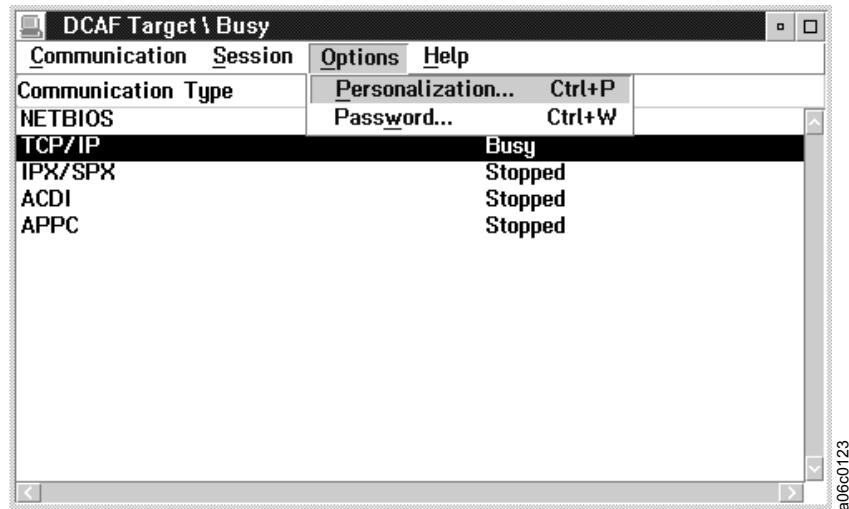

Figure 191. Options Menu
2. On the Options menu, select the **Password...** option in the DCAF Target \ Busy window (see Figure 191 on page 315).